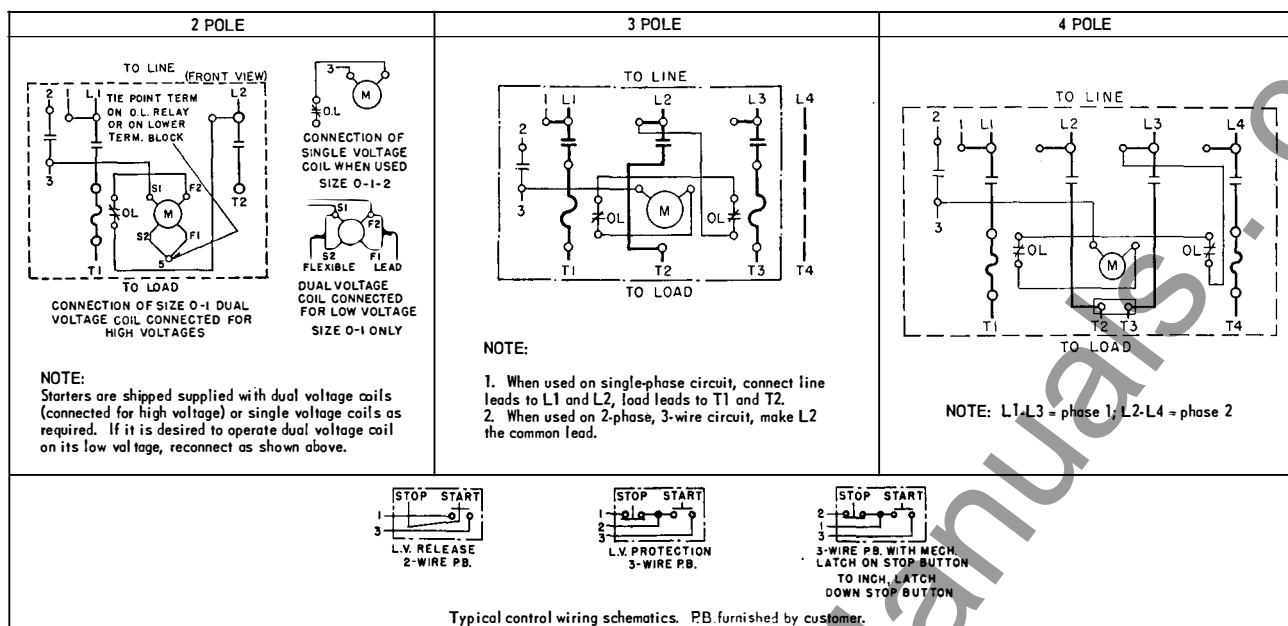

FIG. 3. Wiring Diagram
**DESIGN N LIFE-LINE STARTER** will give protection against overloads (but not against short circuit currents) when wired in accordance with Fig. 3 and provided with overload heaters selected from the Heater Application Tables.
If it is desired to operate the coil from a separate control circuit, disconnect control lead at "L2" and at lower right overload relay terminal (Fig. 3) and remove. Connect one side of separate control circuit to relay terminal where lead was removed and the other side to isolated terminal on top of left overload relay. To this point connect terminal "1" of PB station or master switch; in other respects connect per Fig. 3.